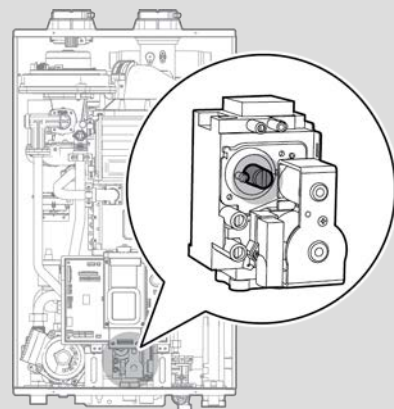

Figure 8. Set Screw Location
- c. Fully open several hot water fixtures and set the boiler to operate at 1-stage MIN mode (refer to page 8). Measure the CO₂ value at low fire. If the CO₂ value is not within 0.5% of the value listed in Table 2, the gas valve set screw will need to be adjusted. If adjustment is necessary, locate the set screw as shown in Figure 8. Using a 5/32 in or 4 mm Allen wrench, turn the set screw no more than 1/4 turn clockwise to raise or counterclockwise to lower the CO₂ value.